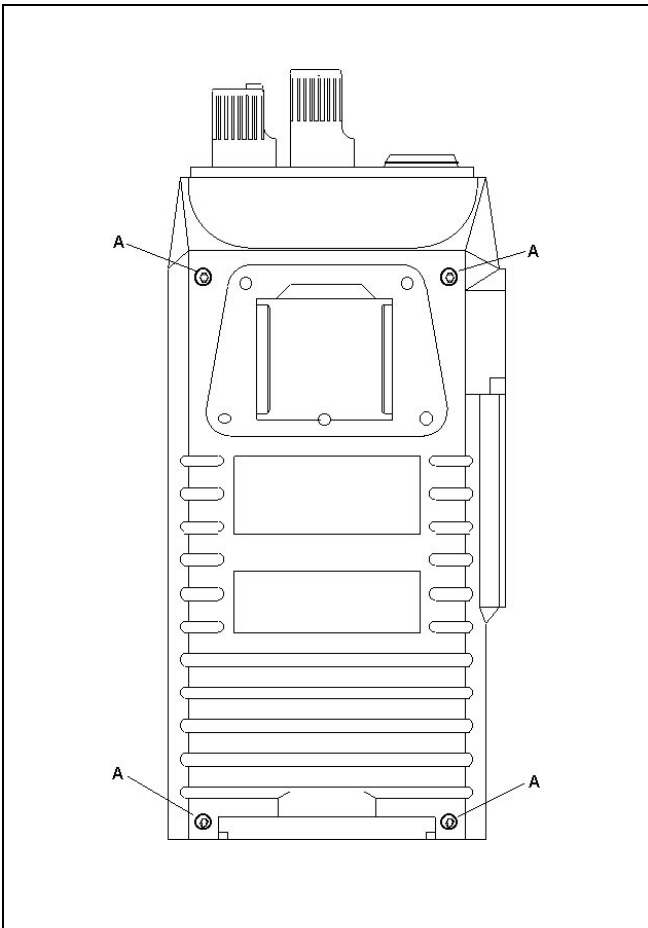

Figure 6 - Front and Rear Cover Separation
In the event internal service is required, disassemble the radio in accordance with the following outlined steps. See Figures 6 - 10.
Lay the radio face down and loosen the four (4) TORX® screws (A) on the back of the radio; complete screw removal is not necessary. See Figure 6. Separate the covers by carefully lifting the Rear Cover Assembly straight up to avoid bending the connector pins between the RF and Control Boards.